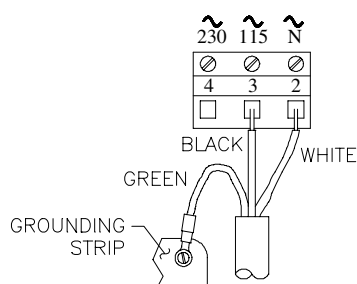

FIGURE 2-12
- *The grounding strip at bottom of case (5 open holes -- Figures 2-12, 2-14 or 2-16) for analyzers with "B" prefix serial number.*